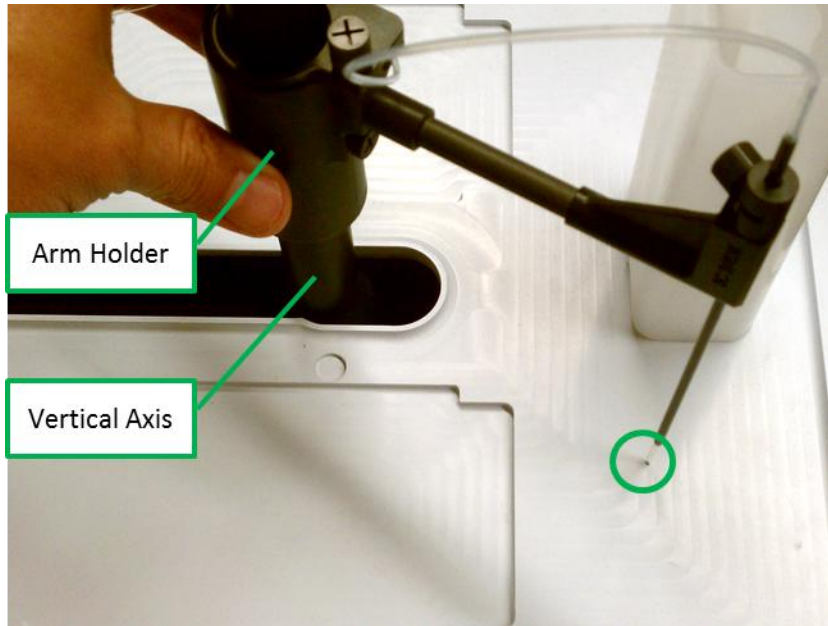

Figure 73: Proper position of probe over Calibration Point.
- 5) Now with the screw still loosened from Step 3), and with the probe in place, adjust the arm position by carefully rotating the Arm Holder about the vertical rail until the probe tip is on the calibration spot. Do not disturb (rotate) the carriage assembly (vertical axis) from its position to insure better accuracy. See Figure 73.